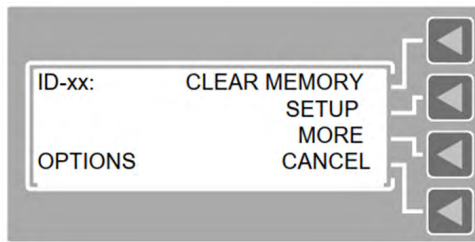

Figure 4.2.1: Enter ARC-i-TEC Setup mode using SYM
- Hold for 5 seconds to unlock the SETUP menu when SYM displays SETUP (LOCKED) (Refer to Figure 4.2.1).